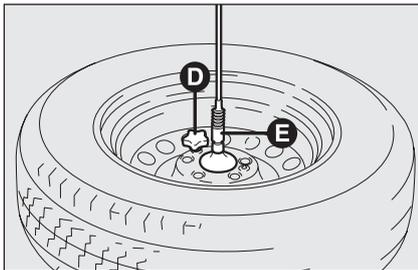

fig. 7b
- take the flat tyre, hook it to support **E-fig. 7b** and screw knob **D-fig. 7b**;